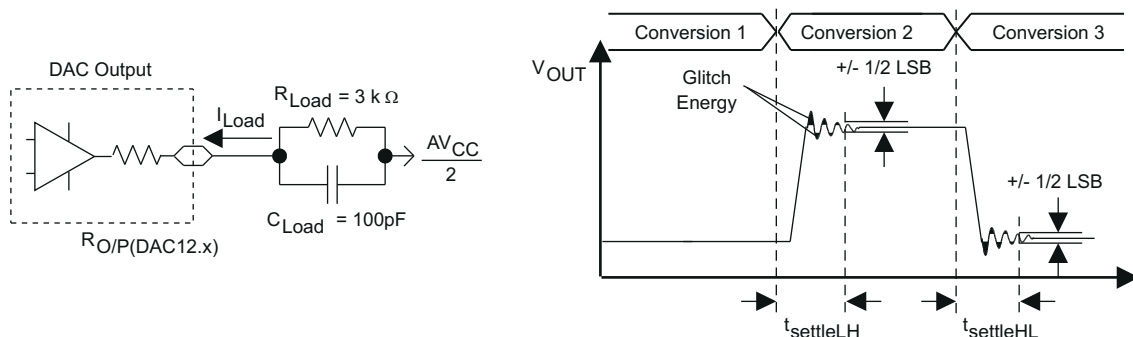
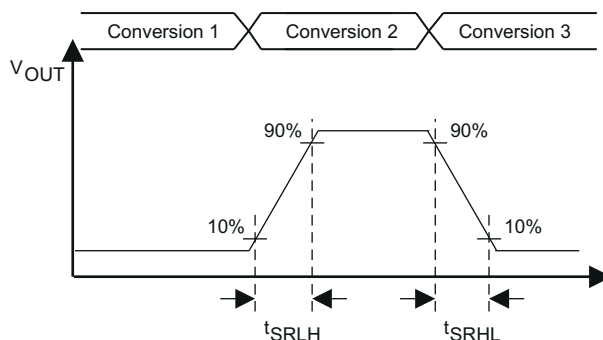

图 8-25. Settling Time and Glitch Energy Testing
图 8-26. Slew Rate Testing
V_{ref} = V_{CC}, DAC12IR = 1, over recommended operating free-air temperature range (unless otherwise noted) (see 图 8-25 and 图 8-26)
(1) R_{Load} and C_{Load} connected to AV_{SS} (not AV_{CC}/2) in 图 8-25.
(2) Slew rate applies to output voltage steps ≥ 200 mV.